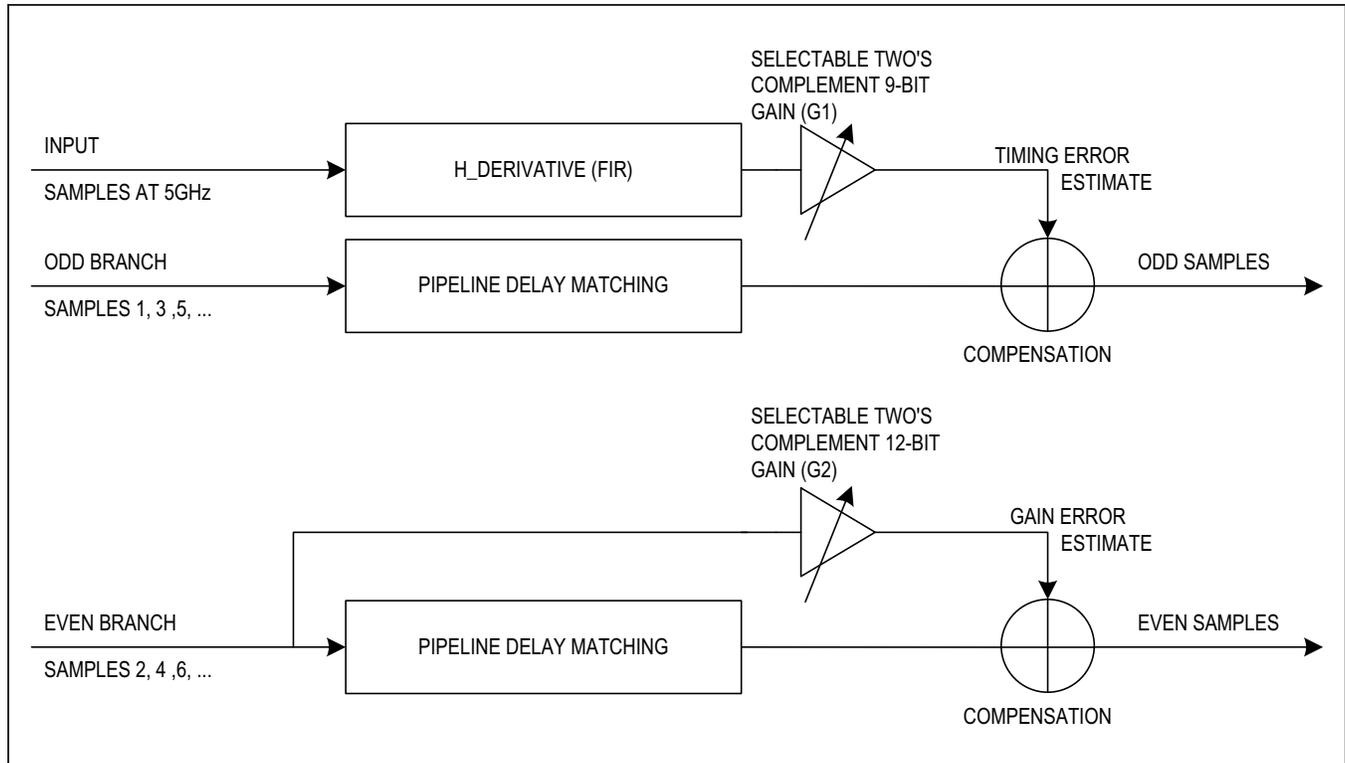

Figure 22. $f_{DAC/2} - f_{OUT}$ Correction Block
- DAC Interleaving-Error Compensation: Since the DAC is updating on both clock edges, every other sample has an error resulting from the clock duty cycle being different by 50%. The DAC can also have a gain error in every other sample. The DAC interleaving compensation can correct for these two errors. By optimizing for these errors, the $f_{DAC}/2 - f_{OUT}$ image is minimized. The block diagram of the DAC interleaving-error compensation block is shown in Figure 22.
programmable parameters, ranges, and resolution. Review the Register Descriptions section for programming information. The DAC interleaving compensation shown in Figure 22 contains two paths. Interleaving compensation adjusts for gain errors of every other sample, caused by either actual DC gain error or by clock duty-cycle error. The uppermost data path in this figure corrects for clock duty-cycle error. A duty-cycle error causes an error in the boundary between two samples that is proportional to the step size. In the uppermost data path, the step size is extracted and then every other step is extracted and scaled. The phase-correction filter aligns the phase of the correction signal with the transition between two adjacent samples. The lowermost data path extracts every other sample of the input signal and scales the input signal. When added into the signal path, a gain adjustment for every other sample results.